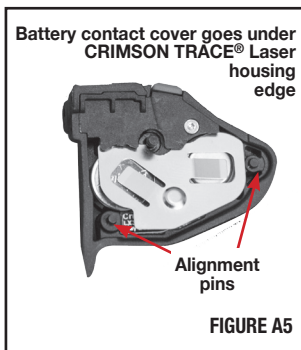
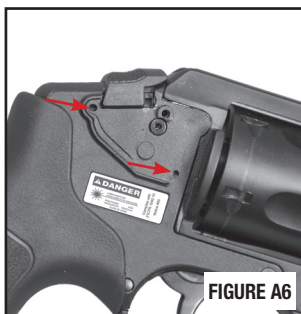

FIGURE A5
FIGURE A6
- Reinstall the battery contact cover by sliding it under the edges of the Crimson Trace® Laser housing as shown (FIGURE A5).
- Insert the Crimson Trace® Laser alignment pins (FIGURE A5) into the corresponding holes in the revolver's frame (FIGURE A6). Use the provided hex wrench to turn the hex screw in clockwise until snug. Make sure the Crimson Trace® Laser is secured and cannot move (FIGURE A7). Do not over-tighten the screw.